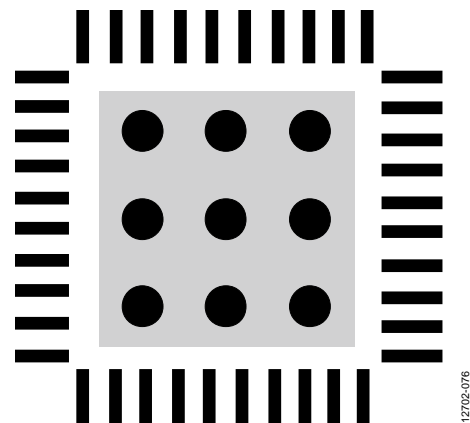

Figure 75. Exposed Pad Layout Example, Top View (Not to Scale)
- Place vias to connect all layers of copper, allowing efficient heat and energy conductivity. For an example, see Figure 75, which has nine vias arranged in a 3 via \times 3 via grid in the pad area.